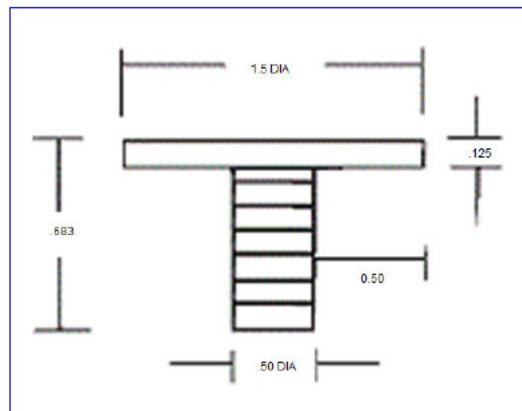

Figure 4. Pavement Indicator
- THEN remove and replace with pipeline paddle marker as specified in Figure 4 of GDS L-11.1, "Pipeline Paddle Markers."
- 4.6 Install pavement indicators on recessed hard surfaces, such as concrete, asphalt, sidewalks and driveways. See Figure 4, "Pavement Indicator," below.